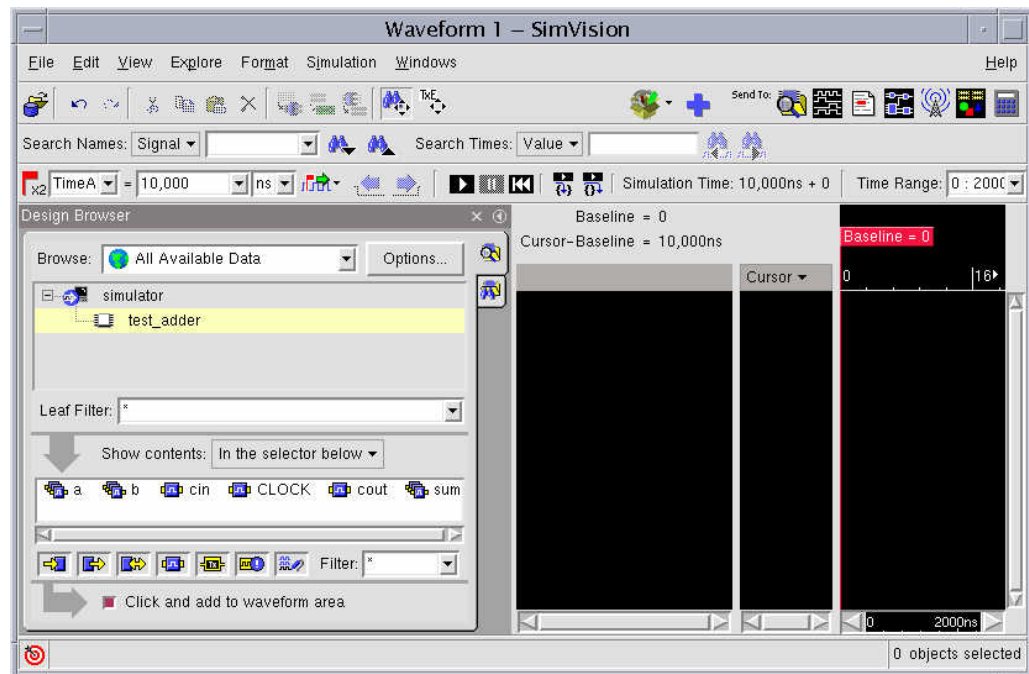

Figure 3-20 Showing the contents of the selected scope.
2. **Expand** the `test_adder` scope by clicking on the  button (If there are subscopes under the **top**, clicking on the +button to expand design, and then select a scope.) The sidebar displays the signals for that scope in the selector area, as shown in figure 3-20.